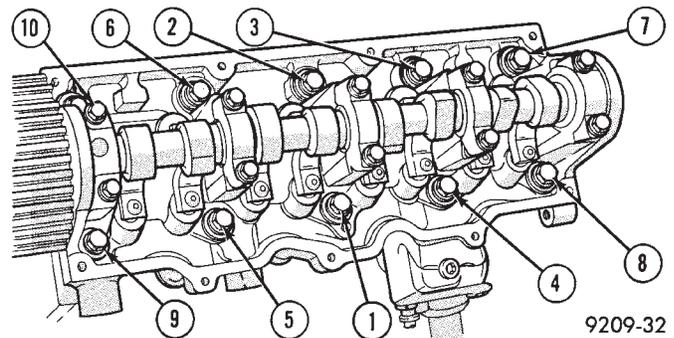
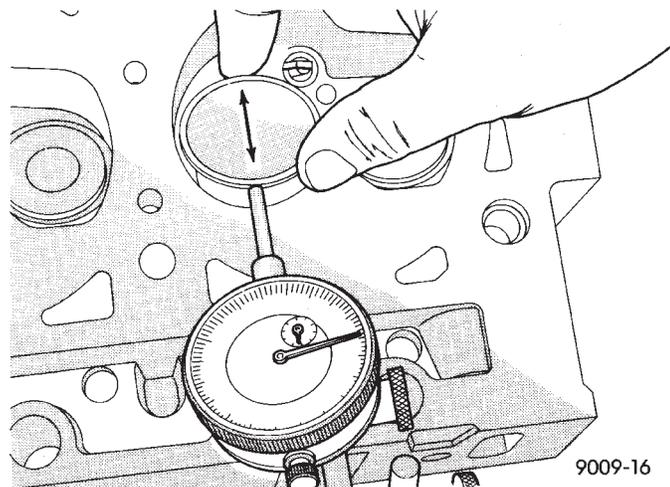

Fig. 17 Cylinder Head Tightening Sequence
Fig. 18 Checking Wear on Valve Guide—Typical
(1) Before installing the bolts the threads should be oiled with engine oil.
(2) Install both bolts in each cap finger tight, then alternately torque each bolt to assemble the cap properly.
(3) Tighten the cylinder head bolts in the sequence shown in (Fig. 17). Using the 4 step torque turn method, tighten according to the following values:
- (1) Remove carbon and varnish deposits from inside of valve guides with a reliable guide cleaner.
- (2) Checking Valve Guide Wear:
- Move valve to and from the indicator (Fig. 17). The total dial indicator reading should not exceed the amount specified in (Fig. 18). Readings should be taken for lengthwise and crosswise (with respect to cylinder head) movement for each valve. Ream the guides for valves with oversize stems if dial indicator reading is excessive or if the stems are scuffed or scored.
Reamers sizes to accommodate the oversize valve stem are shown in (Fig. 18).